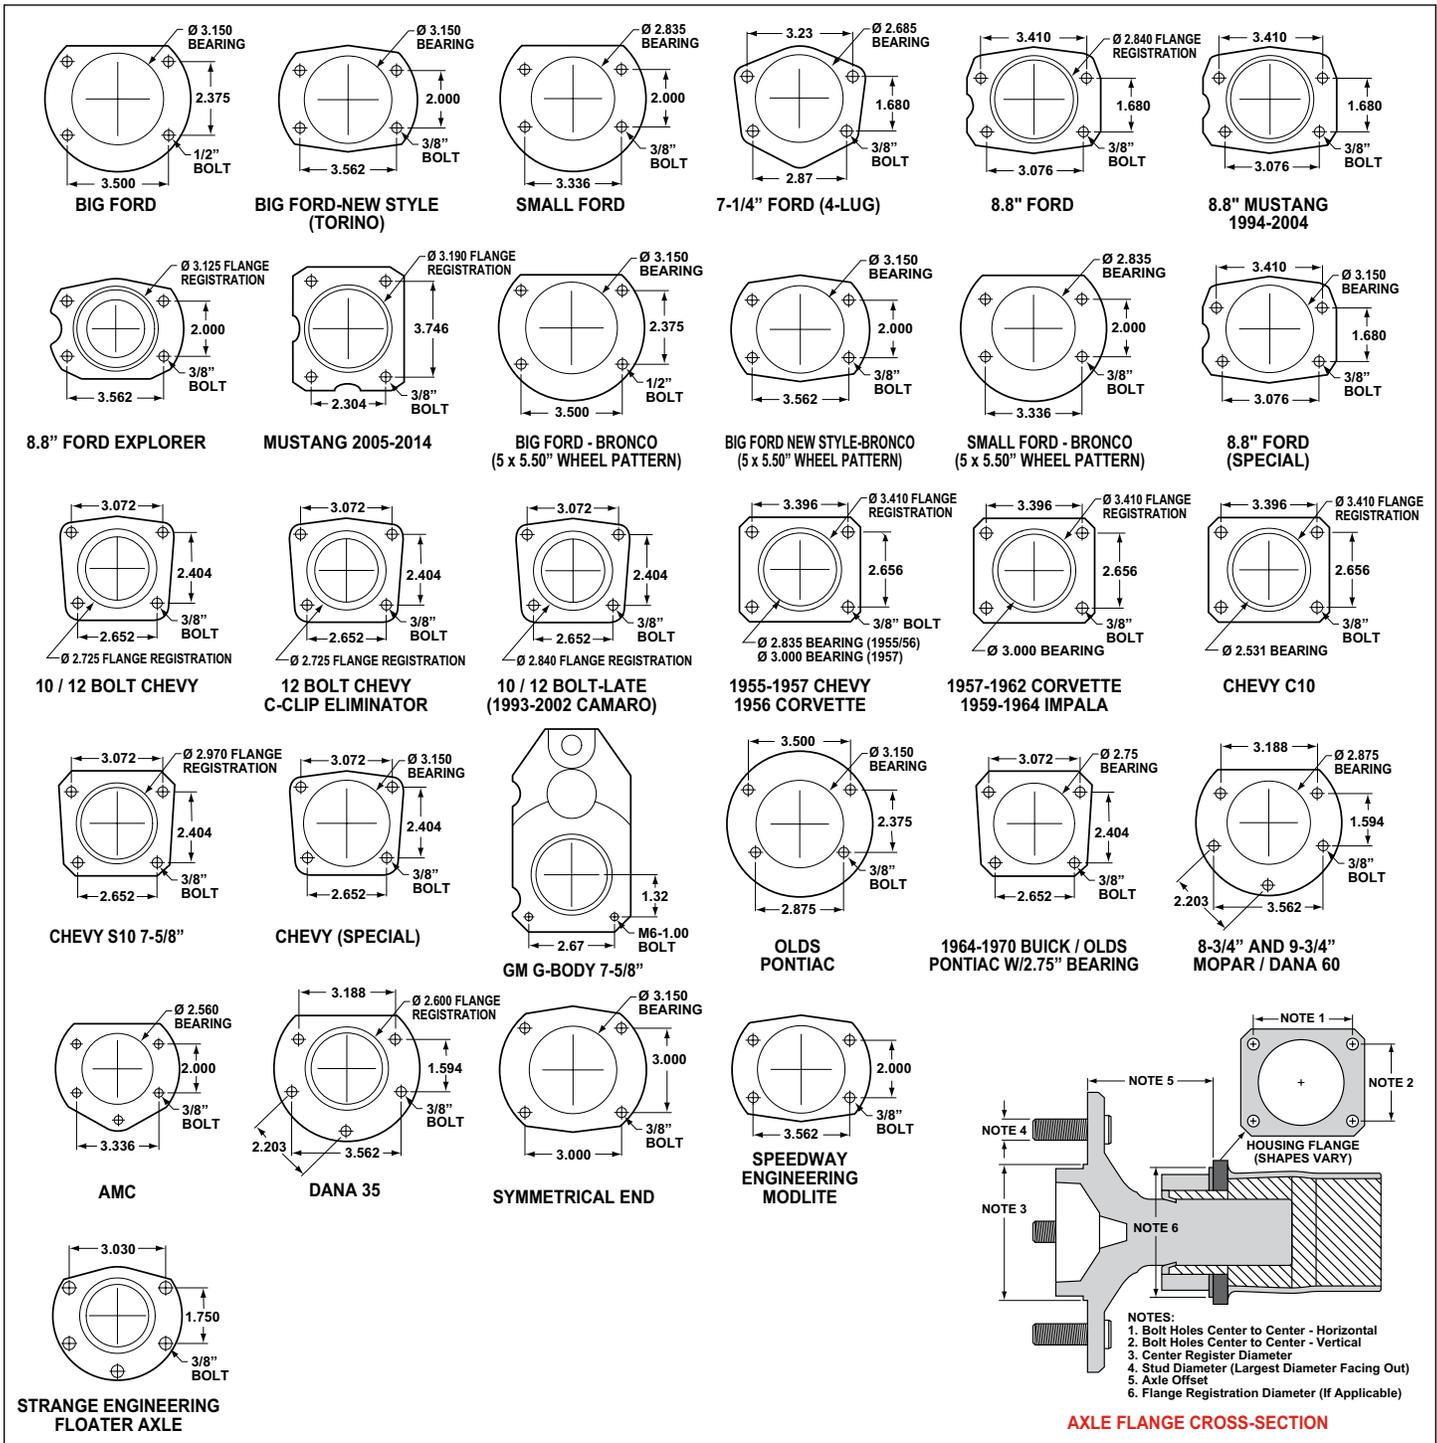

Figure 5. Rear Housing Flange Chart and Axle Flange / Offset Cross-Section
- Make sure this is the correct kit to fit the axle housing flange, not necessarily the rear end make. Many times aftermarket manufacturers put a different make of axle housing flange on the stock rear end housing (Figure 5). Example; Big Ford rear ends with Olds-Pontiac flanges, therefore, an Olds-Pontiac rear disc brake kit would be the correct kit to order. Also, shock clearance may be a problem. They may have to be modified and/or relocated to clear the Wilwood kit after final assembly.
- Dimension from wheel side of axle flange to wheel side of axle housing flange (see Figure 5, lower right hand corner). This